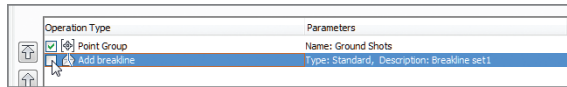

FIGURE 4.9 Unchecking the Add Breakline operation for the surface
10. Open Surface Properties again. On the Definition tab, uncheck the box next to Add Breakline, as shown in Figure 4.9. Click OK, and then click Rebuild The Surface.